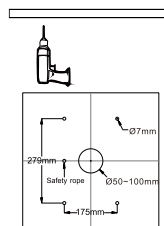

Figure 2
2. Use electric drill to set fixed holes through the ceiling(Figure 2)..